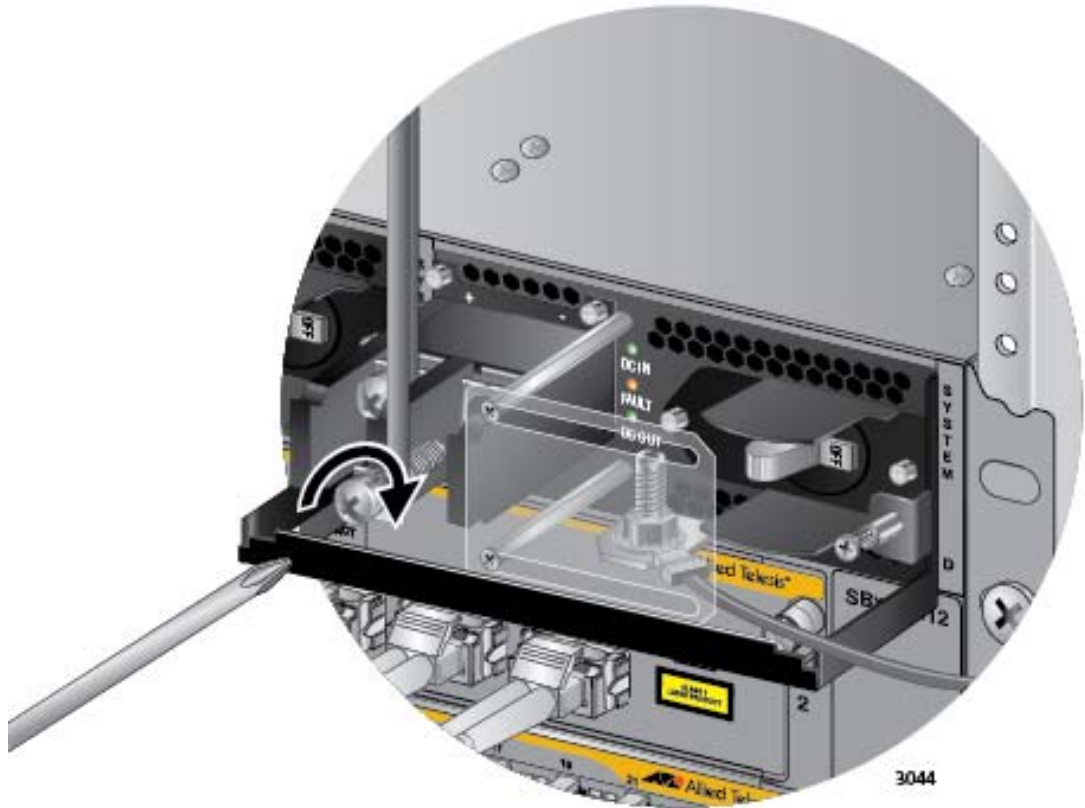

Figure 127. Connecting the Negative Lead Wire with Bare Wire
5. Wrap the negative lead wire clockwise around the remaining terminal screw and secure the screw and wire to the negative terminal connection on the terminal block with a #3 Phillips-head screwdriver, as shown in Figure 127 on page 173. The negative terminal is on the right.